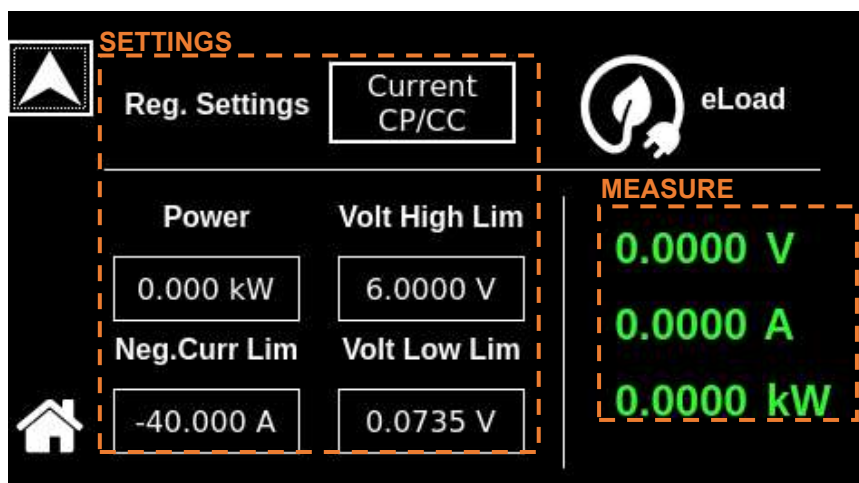

**Figure 10-14. Dashboard Screen in Current CP/CC Regulation setting**
**a) Current - CP/CC Regulation setting** is shown in Figure 10-14,